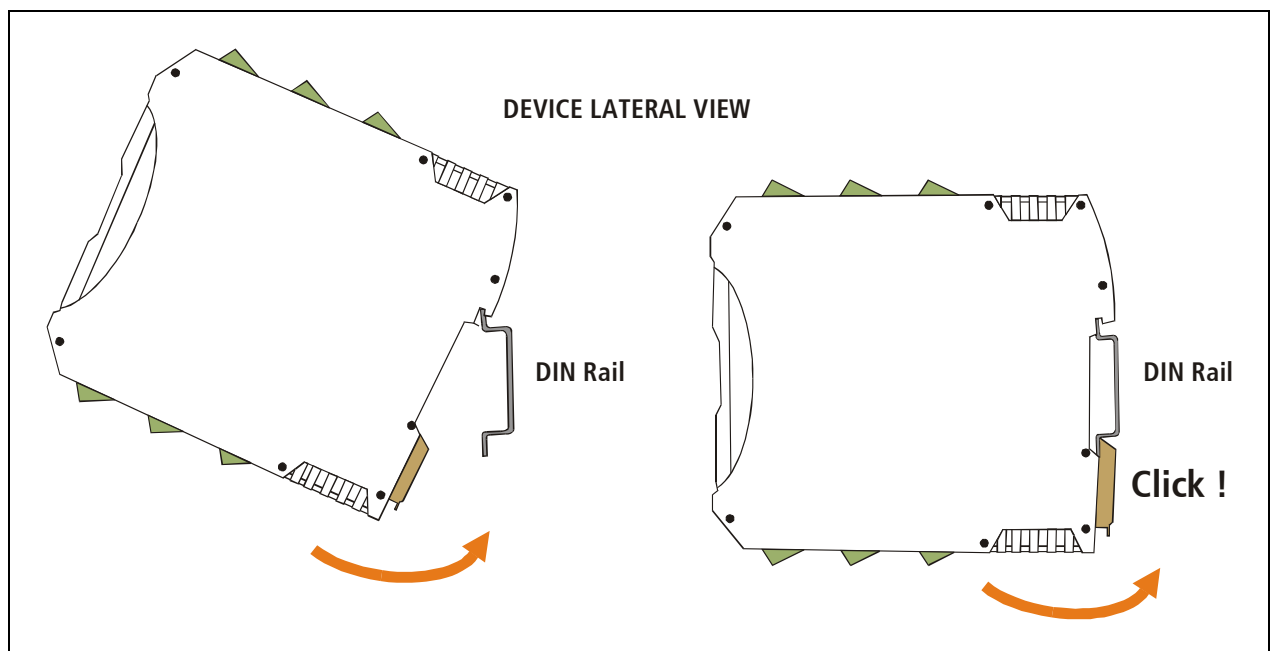

Figure 15 - Assembly of the device on DIN rail
To disassemble the device of the rail DIN (figure 15), pull down the metallic clip and then remove it (C).